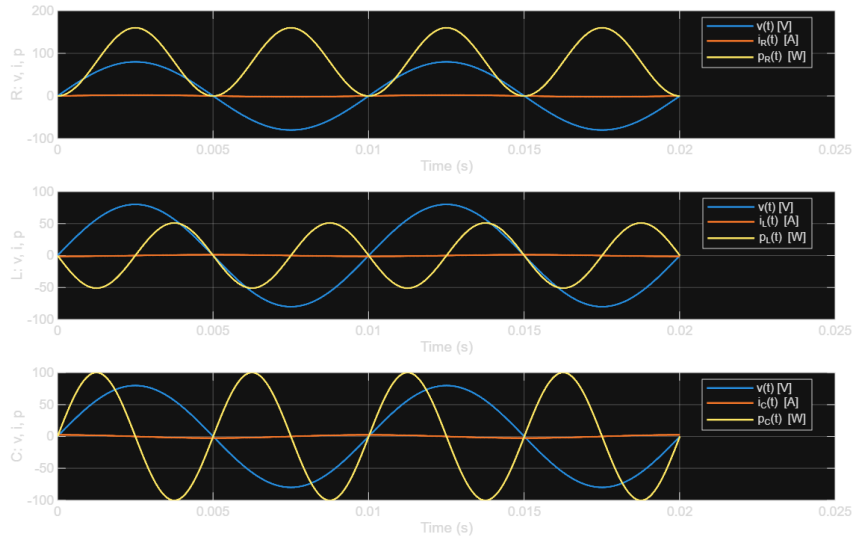

Figure 8: Instantaneous power. $p_R(t) \geq 0$ with mean 80 W; $p_L(t)$ and $p_C(t)$ alternate sign and average to zero.
- **MATLAB plots:** Figs. 8, 9.